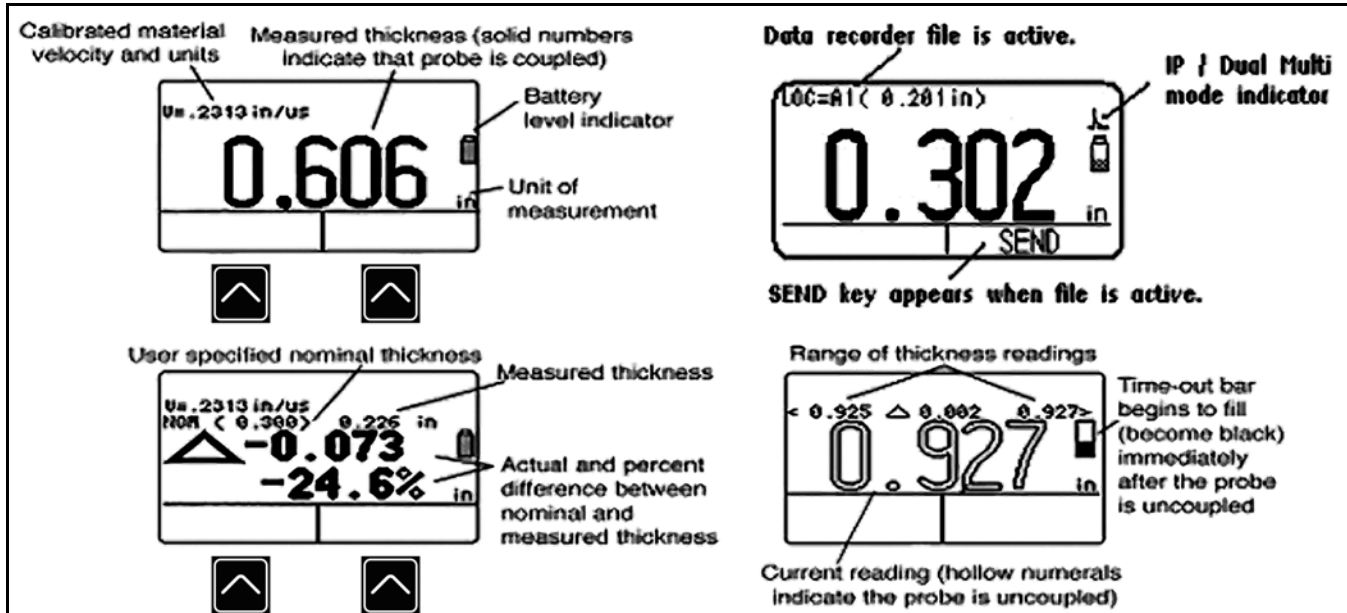

Figure 3: Measurement Display Mode
- **Measurement Display Mode** - Indicates measured thickness, contains status icons, displays data recorder location and file name (when this option is installed and activated). *Figure 3 on page 10* shows four representative display screens. The display's appearance varies based on the installed instrument options as well as instrument display settings. Additional measurement view modes are available when the Dual Multi or Data Recorder options are installed.